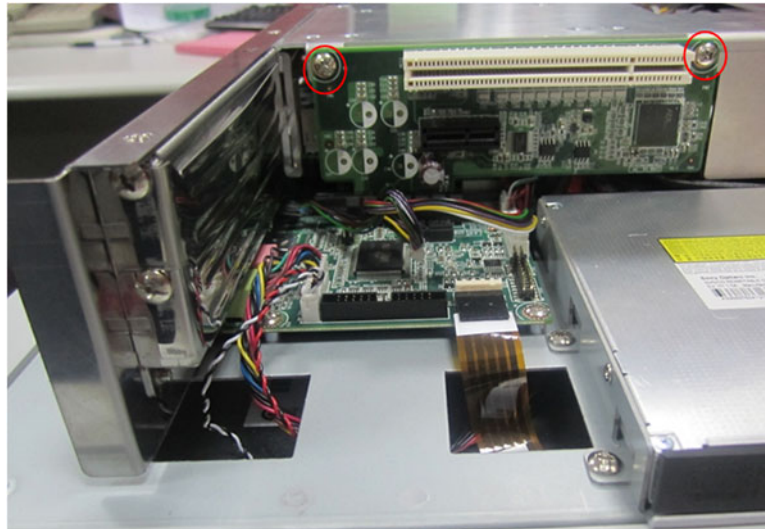

Figure 2.38
2. Insert the riser card into the slot, and lock the two screws.(See Figure 2.38)